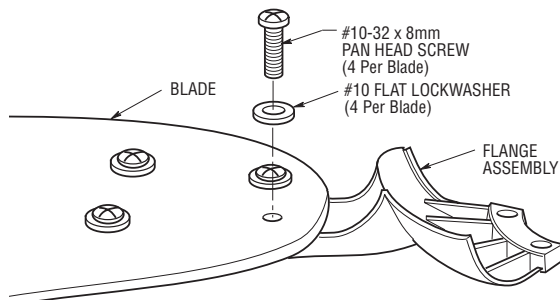

Figure 1
1. Place the flange onto the blade. Secure the flange to the blade using the four #10-32 x 8mm pan head screws and four #10 flat washers (supplied). Repeat for the four remaining blades. (Figure 1)